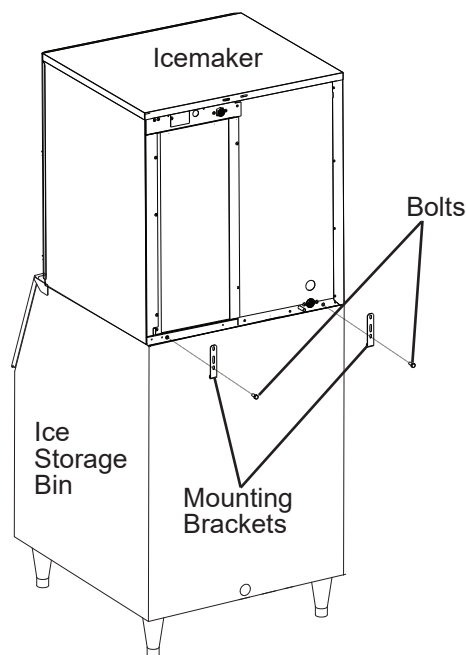

Fig. 2
- 4) Secure the icemaker to the storage bin using the 2 mounting brackets and the bolts provided. See Fig. 2.
- 6) Icemaker: Replace the panels in their correct positions. See Fig. 2.